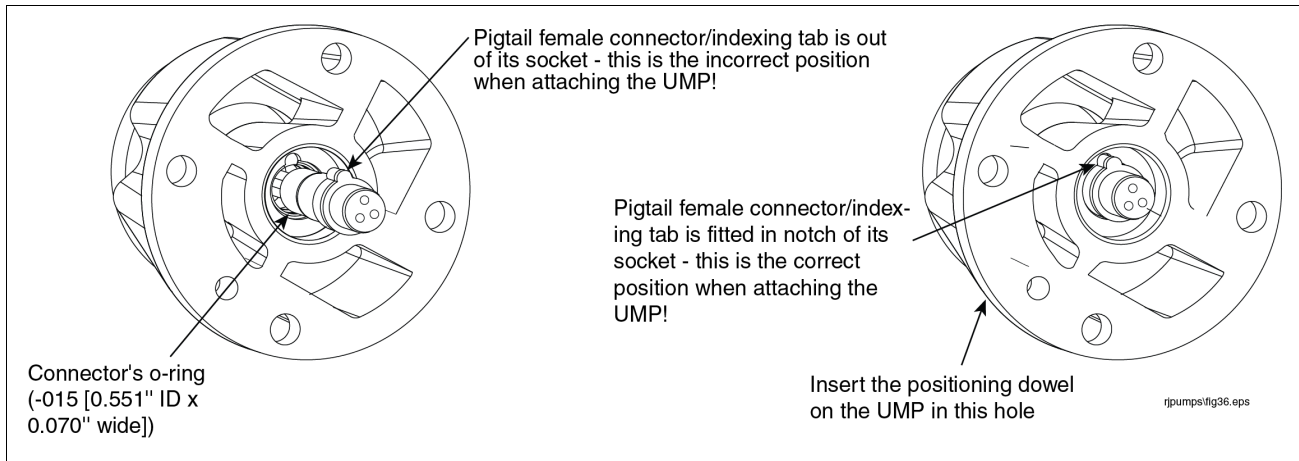

Figure 41. Verifying Pigtail's Female Connector Is Seated Properly
- Pull the pigtail connector in the discharge head out far enough to see the o-ring in the sidewall of its socket (see Figure 41). Remove the connector's o-ring from the connector's socket and discard it. Get a 0.551" ID x 0.070" wide o-ring from the kit and lubricate it with petroleum jelly. Slide the new o-ring over the pigtail connector and push it in the groove in the wall of the connector's socket. Lubricate the pigtail connector body with petroleum jelly and push it back into its socket, making sure its index tab is in the socket's notch.
- Align the UMP positioning dowel so it inserts in the proper hole in the discharge head (see Figure 41) and push the UMP into position using hand force only. The UMP should be snug against the discharge head prior to installing the UMP retaining bolts.